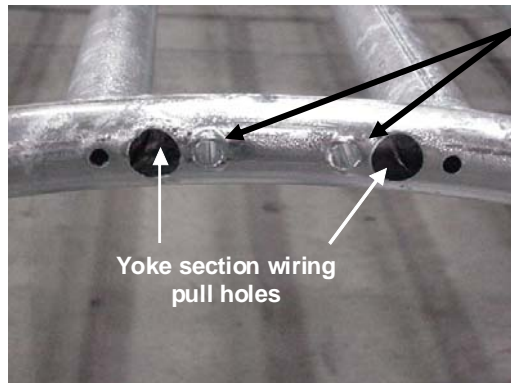

Figure 3.19 - Top view of the Yoke section.
34. If the turnstile uses an activation device that mounts to a plate or bracket on one or both of the yoke section (such as a card reader), run the associated wiring through the yoke(s) using the pre-installed feeder wire(s). Feed the access control system wires through the openings in the top of the yoke section and into the inside of the top channel. (See **Figures 3.19 and 3.20**).